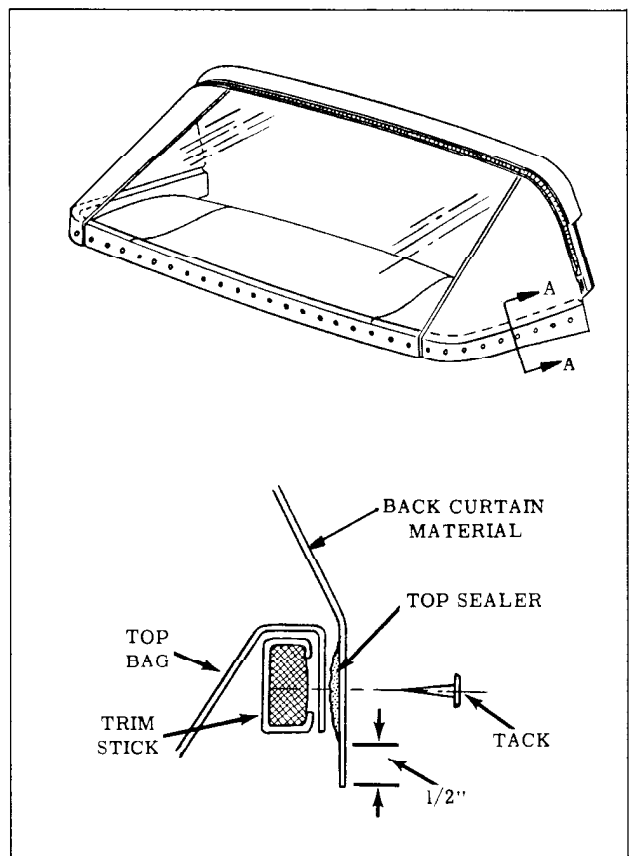
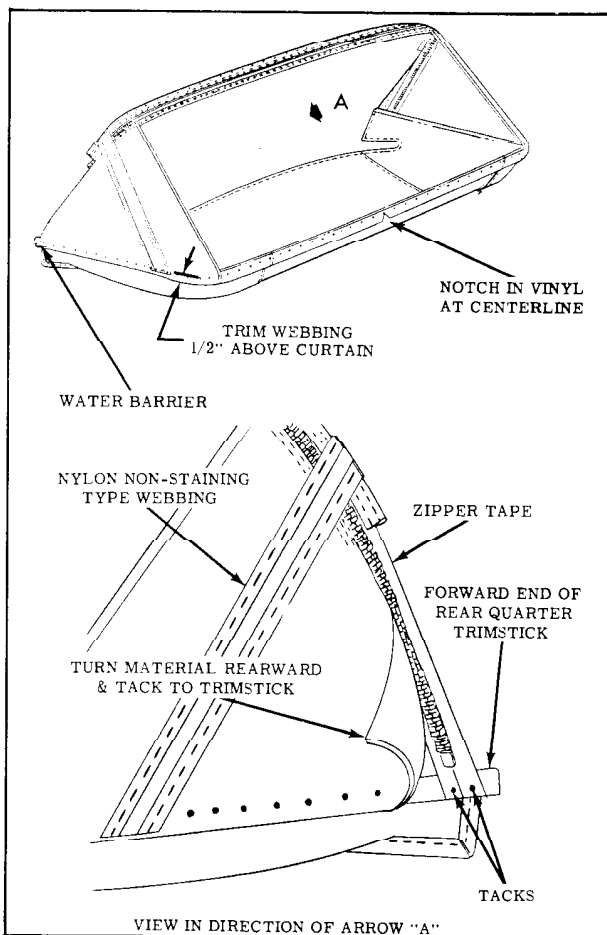

Fig. 15-93 Back Curtain Sealing
Fig. 15-94 Back Curtain Installation
6. Place back curtain window assembly on clean covered work bench with exterior (vinyl) surface of back window valance facing down. (Large pliable back window must be handled carefully to avoid possible damage due to scratches, abrasions, etc.) Apply bead of convertible top sealer (nitrile) along lower edge of back curtain material in area which will be tacked to rear and rear quarter trim stick. (View "A-A" in Fig. 15-93)
7. Apply bead of convertible top sealer (nitrile) along lower selvage edge of back curtain material. (Fig. 15-93)
NOTE: Notch in back curtain vinyl at lower edge indicates centerline of back curtain assembly. (Fig. 15-94) In addition, back curtain lower edge should extend 1/2" below lower edge of trim sticks as shown in View "A-A", Fig. 15-93.
forward edge of rear quarter trim stick. (See "A" in direction of arrow in Fig. 15-94)
11. Tack remainder of back curtain material to rear quarter trim stick, turning forward edge of material rearward to form a water barrier. (Fig. 15-94)
13. Tack nylon webbing to rear trim stick. Forward edge of webbing should be even with edge of rear trim stick. New webbing may be cut from a piece of non-staining type webbing 2" x 19". Excess webbing should be trimmed off at rear trim stick, 1/2" above back curtain lower edge. (Fig. 15-94)